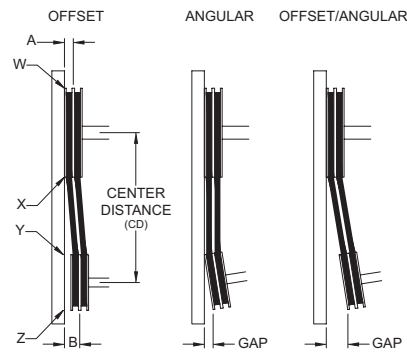
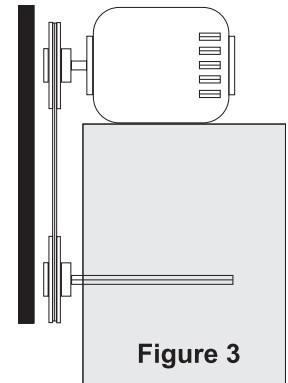

Figure 2
Figure 3
4. Ensure pulleys are properly aligned. Refer to Figure 2.
Figure 2 indicates where to measure the allowable gap for the drive alignment tolerance. All contact points (indicated by WXYZ) are to have a gap less than the tolerance shown in the table. When the pulleys are not the same width, the allowable gap must be adjusted by half of the difference in width. Figure 3 illustrates using a carpenter's square to adjust the position of the motor pulley until the belt is parallel to the longer leg of the square.